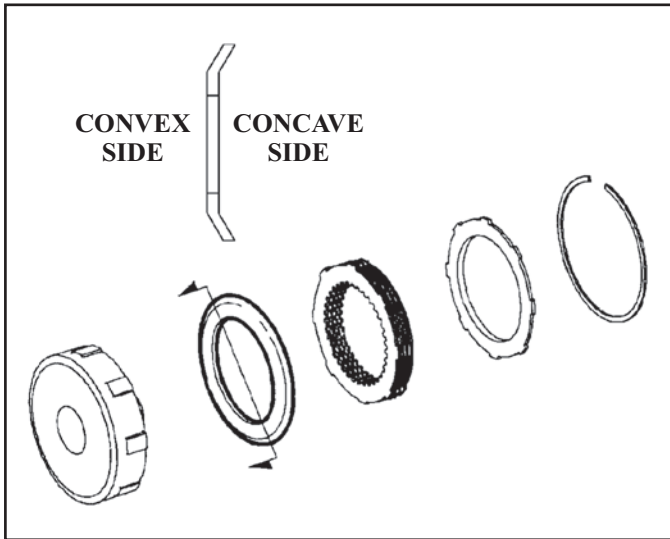

Figure 111
- 1992 and later 1st clutch drum assemblies install a Belleville spring as shown in Figure 111.
- Install the Belleville spring into the 1st clutch drum with the convex side towards the piston (See Figure 111).
- Install clutch plates starting with one that is internally splined, alternating plates with the fiber side up ending with the backing plate and snap ring. There is a total of three internally splined and three externally splined fiber plates (See Figure 111).